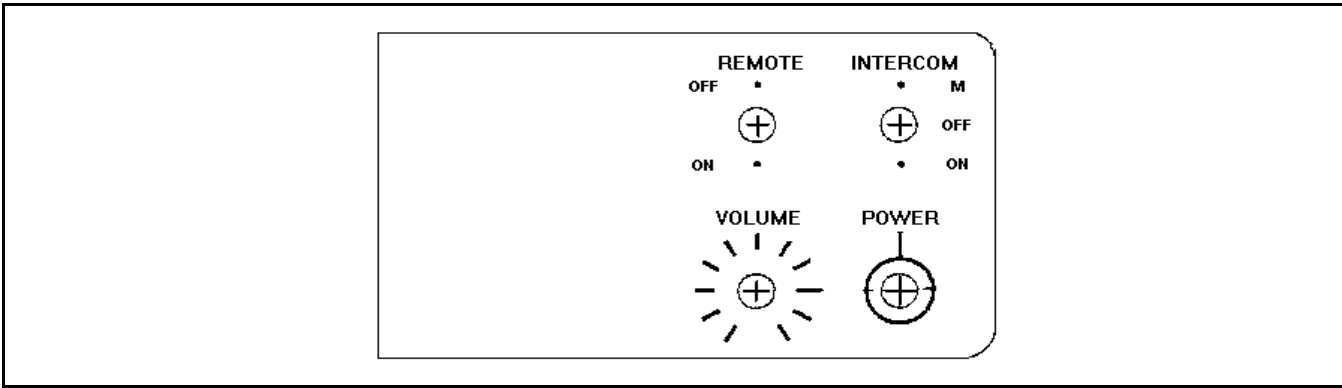

Figure 5 - Control Panel with Remote Option
- 2. **Standard Station with Remote Option** - In addition to the LED POWER indicator, there is a REMOTE ON/OFF switch, an INTERCOM ON/OFF switch, and a VOLUME control switch (see Figure 5).